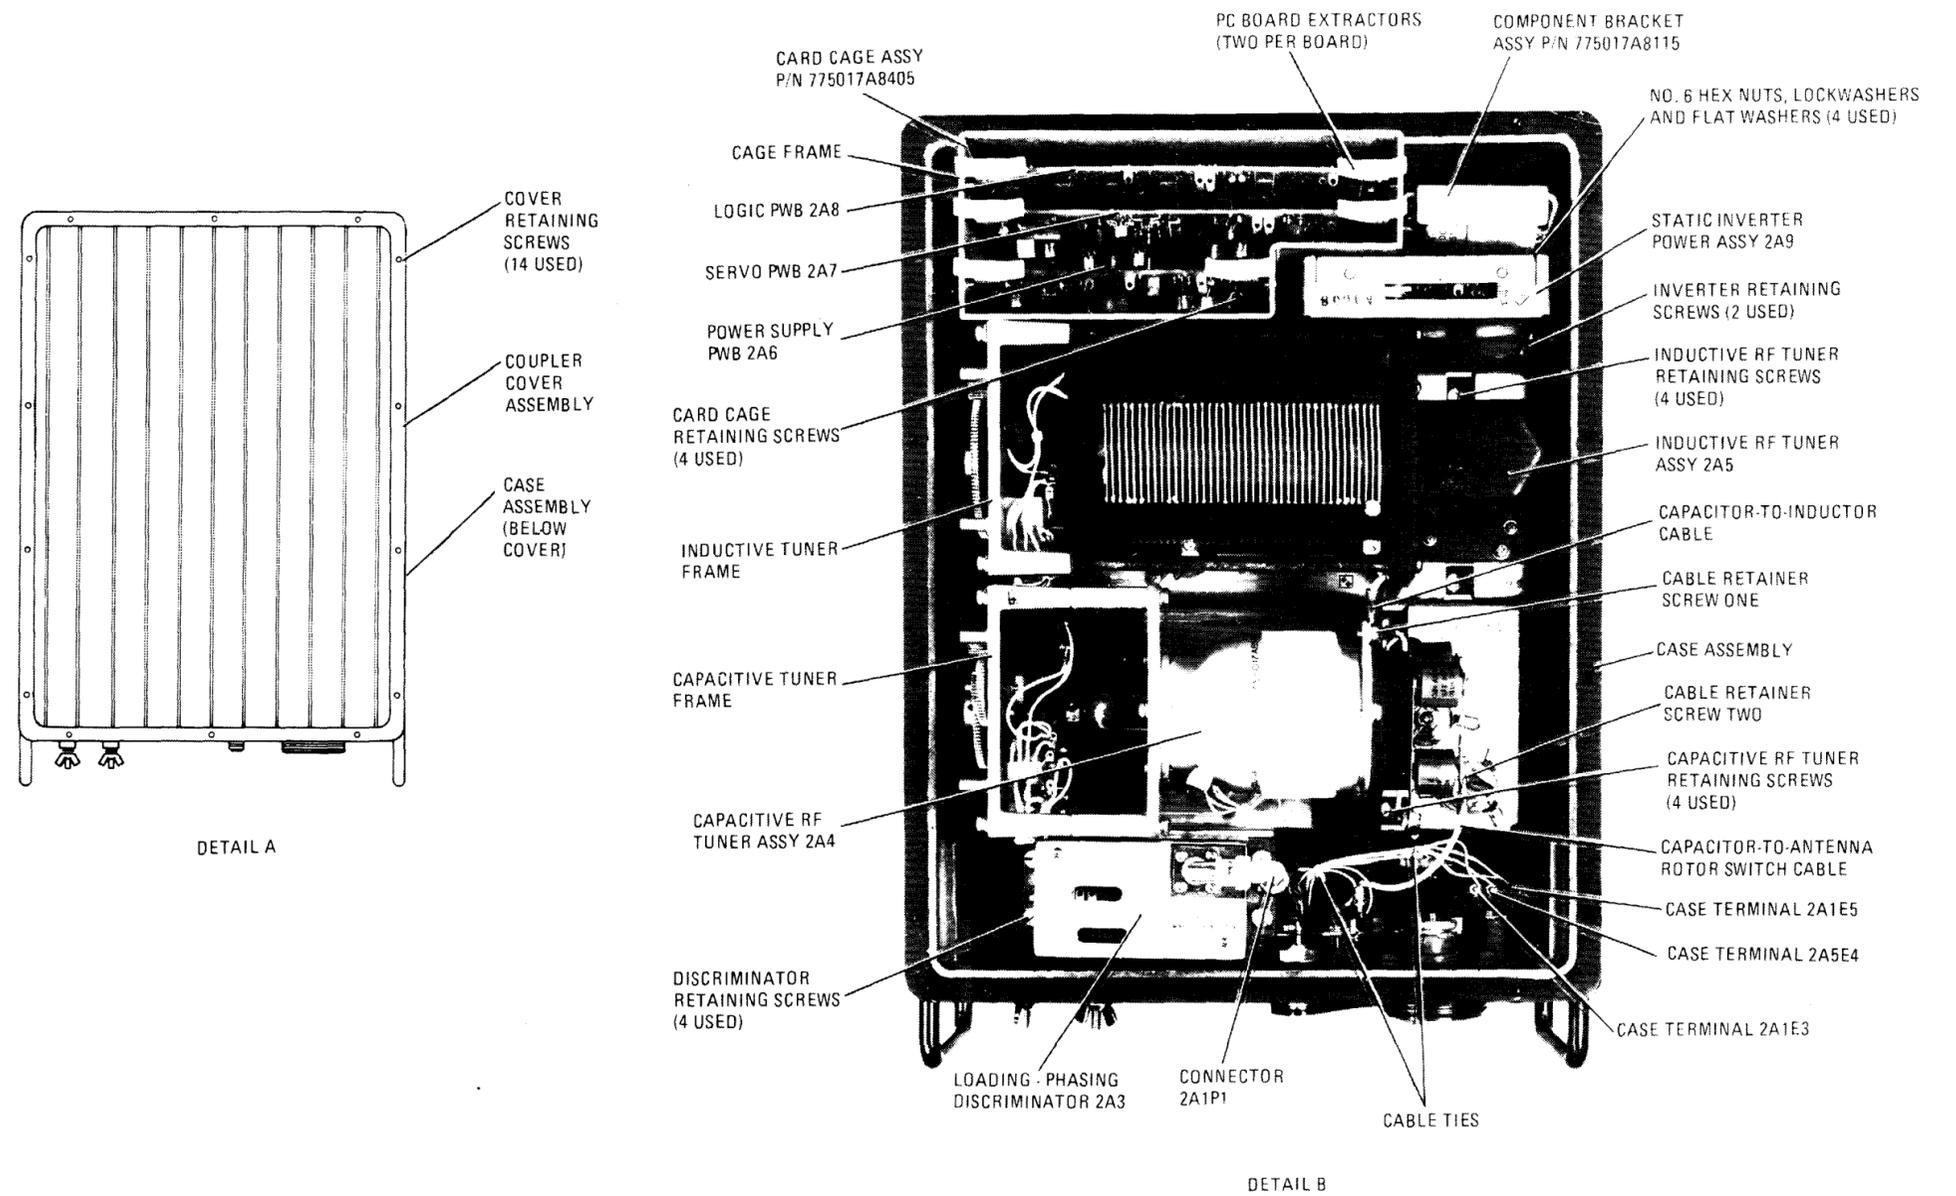

Figure 3-2. Antenna Coupler CU-2064/GRC-193 Disassembly/Reassembly Details (Sheet 1 of 2)
1. Refer to detail A of figure 3-2. Use a 1/4-inch nut driver to loosen the 14 captive cover retaining screws.
1. Refer to detail B of figure 3-2. Disconnect connector 2A 1 P 1 from the discriminator by pressing inward and turning counterclockwise.
1. Refer to detail B of figure 3-2. Use a No. 1 Phillips screwdriver to loosen cable retainer screws one and two just enough to slide ends of capacitor-to-antenna rotor switch cable and capacitor-to-inductor cable away from tuner. Retighten screws.
1. Refer to detail B of figure 3-2. Use a 3-inch flat blade screwdriver to loosen the four captive retaining screws.
1. Refer to detail B of figure 3-2. Use either an 8-inch flat blade screwdriver or a 1/4-inch nut driver to loosen the two captive retaining screws.
3-20. Refer to detail B of figure 3-2. Pull upwards on the inboard portions of the pc board extractors while lifting the boards straight up.
1. Refer to detail B of figure 3-2. Use an 8-inch flat blade screwdriver to loosen the four captive card cage retaining screws.
1. Refer to detail B of figure 3-2. Use a No. 6 nut driver to loosen the four hex nuts, lockwashers, and flat washers.
1. Refer to detail C of figure 3-2, Use a No. 1 Phillips screwdriver to loosen the six retaining screws and board stud screw, lockwashers, and flat washer. Remove hardware.
1. Refer to detail C of figure 3-2. Use a No. 1 Phillips screwdriver to loosen the two cable screws, lockwashers, flatwashers, tie-downs, and ground lug 2A2E1. Remove hardware and tie-downs.
1. Refer to detail C of figure 3-2, Use a No. 1 Phillips screwdriver to loosen the four connector retaining screws. Remove screws.
1. Refer to detail B of figure 3-2. Unsolder and tag the four cable wires attached to case terminals 2A1E3, E4, and E5, respectively. (Two wires are soldered to terminal E5).
1. Refer to detail F of figure 3-2. Use a No. 8 Phillips screwdriver to loosen the 16 bottom plate screws. Remove screws and bottom plate.
4. Improper antenna flagswitch mechanical operation. If antenna flagswitch 2A1S2 is loose, switch actuator spring (detail E of figure 3-2) may be fatigued or broken and must be replaced as described in paragraph 3-77.